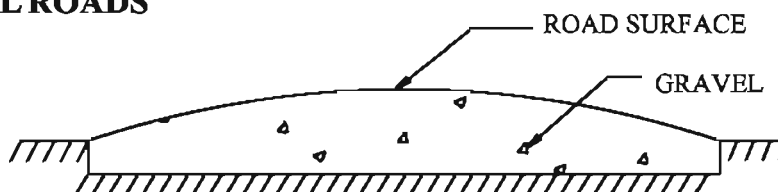

FIG.8.10 TRENCH TYPE CONSTRUCTION OF GRAVEL ROAD
- 1) Trench Spread method (Fig 8.10)